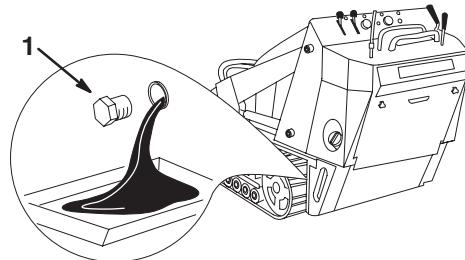

Figure 32
- Remove the drain plug (Fig. 32).